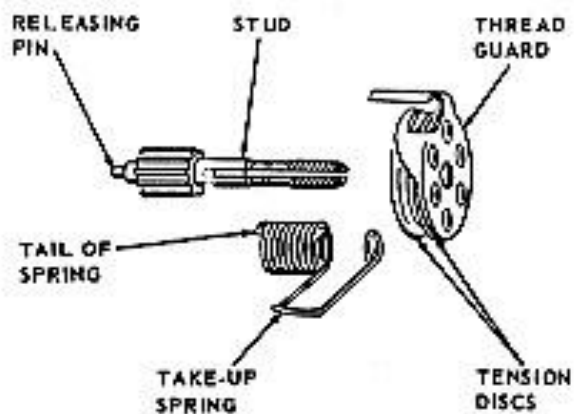

Fig. 33. Take-up Spring Unit
4. Align coils of spring with hole in discs and place this assembly on stud as shown in Fig. 33.
5. Tail of thread guard enters hole provided in machine head: **Note:** Tail of spring, Fig. 33, enters one of the grooves in rear of stud.